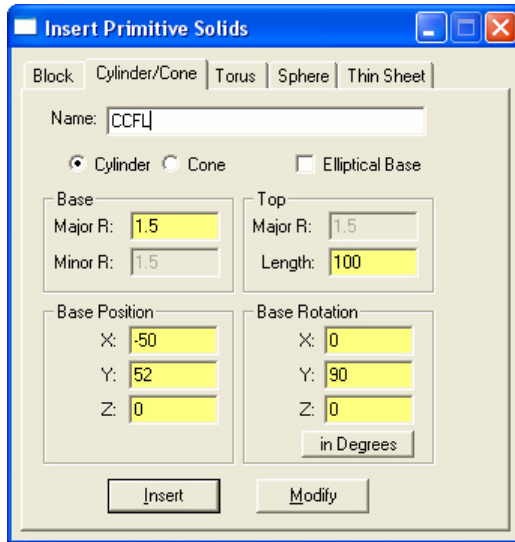

Figure 9. Parameters to Insert the CCFL.
2. Enter the values as shown in Fig. 9,